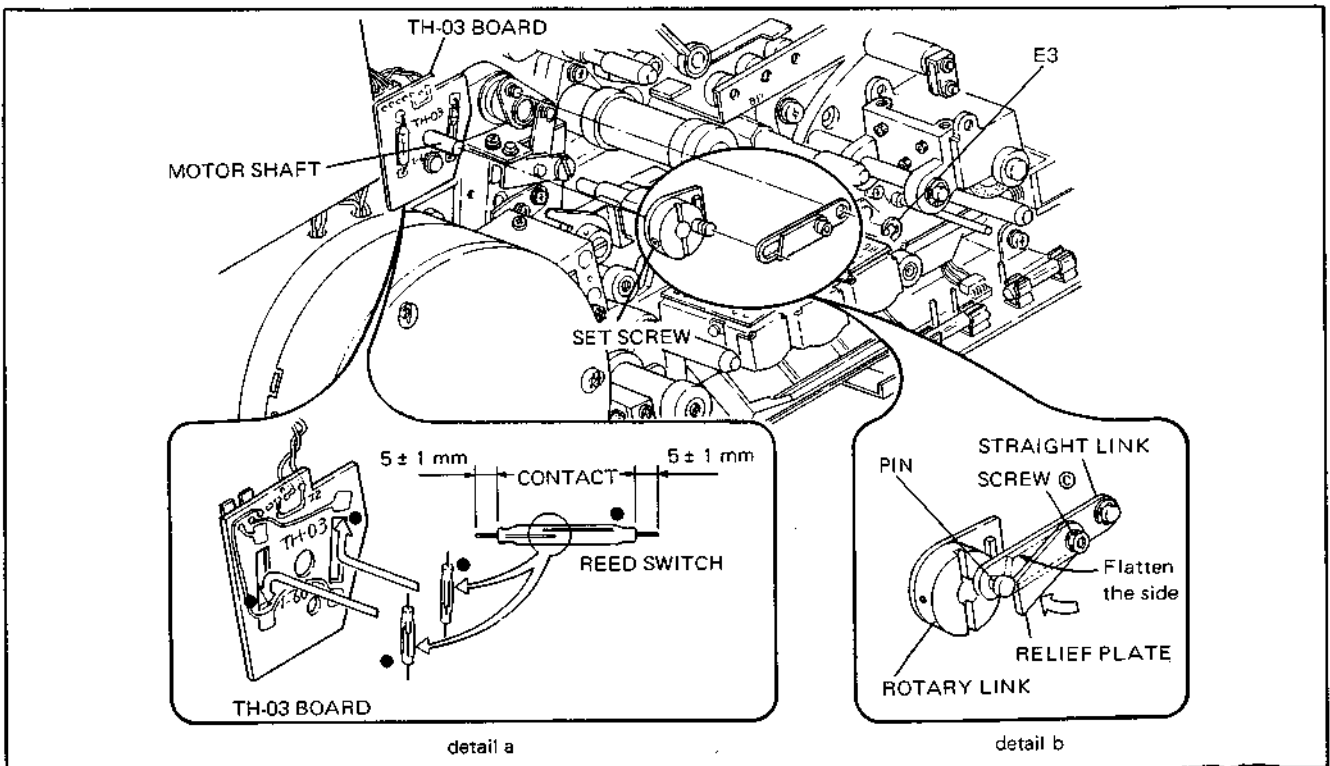

Fig. 3-61. Replacement of Reed Switch
2. Loosen the screw ③ securing the relief plate and remove the straight link.
5. Cut off the leads of a new reed switch in the specified length shown in Fig. 3-61 detail a.
8. Secure the straight link with the E ring (E3). Move the relief plate in the direction shown in detail b and put the relief plate so that the both sides of the relief plate and the straight link are on the same plane and tighten screw ③.